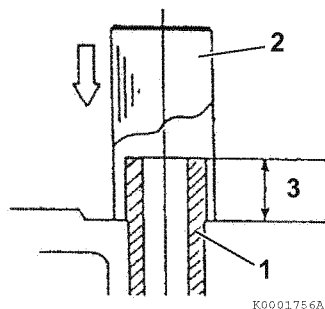

Figure 6-25
3. Finish installing the valve guides (1, **Figure 6-25**) to the proper height (3, **Figure 6-25**) using the valve guide installation tool (2, **Figure 6-25**). See *valve guide projection specification on page 6-5*.